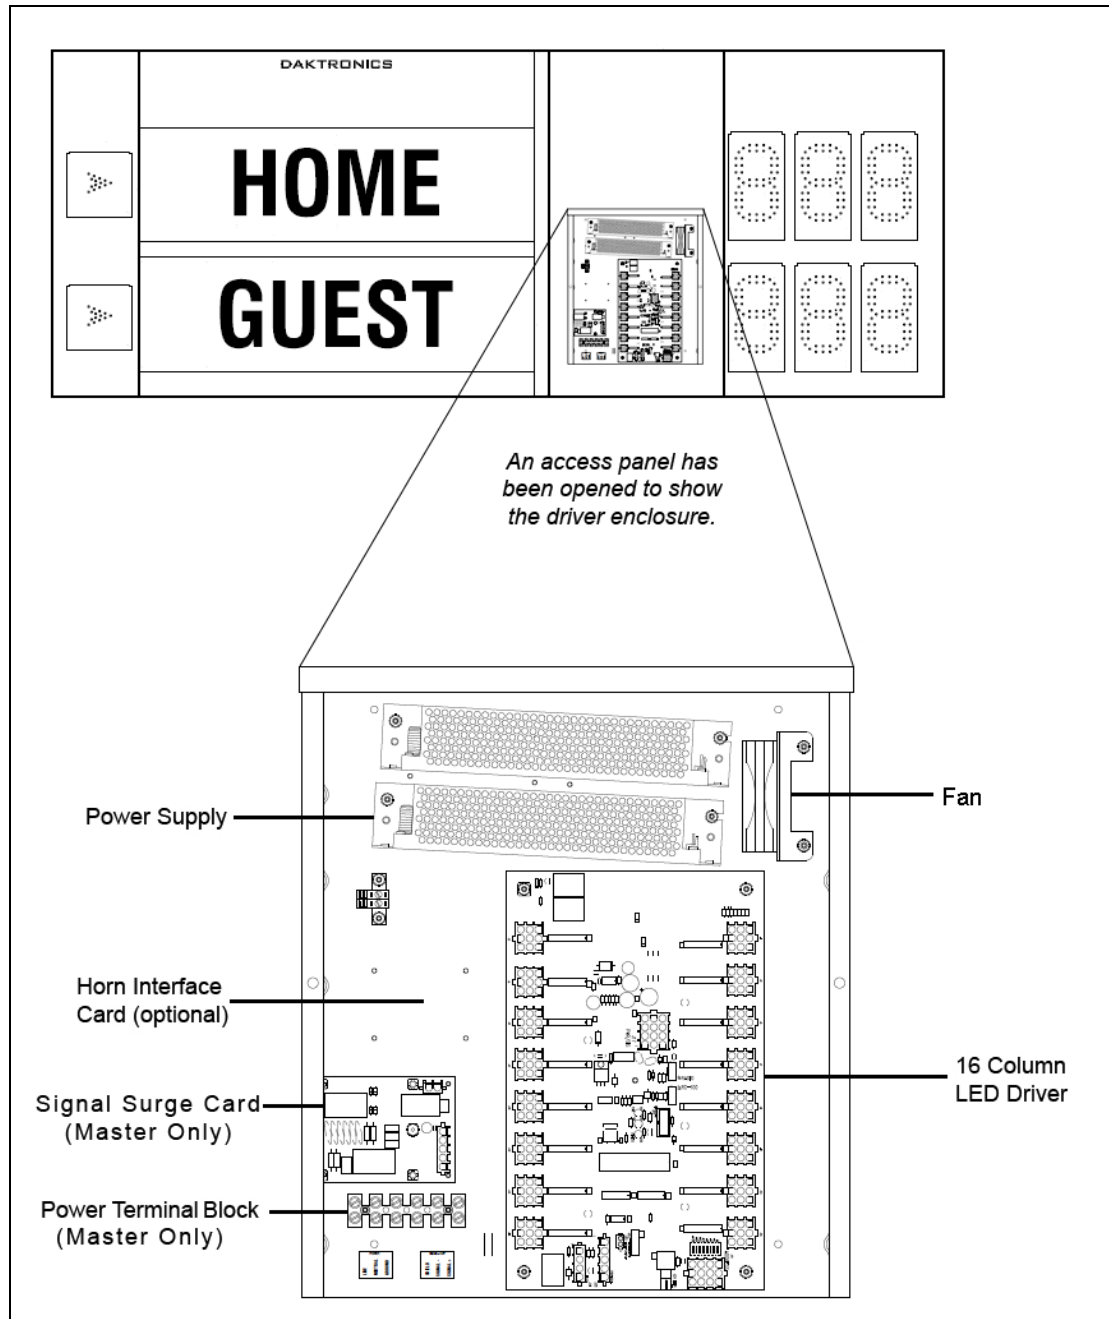

Figure 21: Driver Enclosure Location & Components
The LED drivers perform the task of switching digits on and off within the scoreboard. LED drivers are located inside of a driver enclosure. Refer to **Figure 21** to view the location and components of a driver enclosure.
4. Locate the power supply (**Figure 21**) and disconnect all wires connected to it.